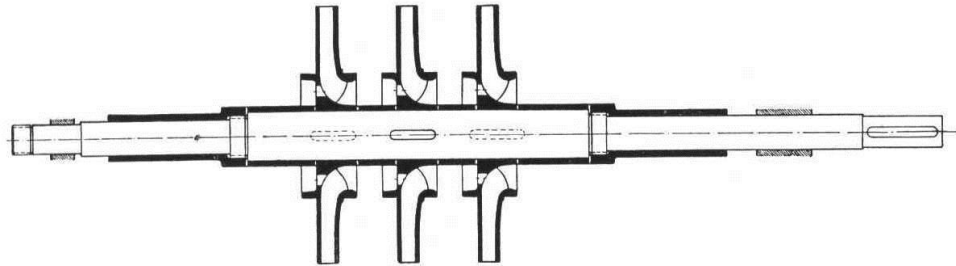

Fig. 5 - Rotor
The shaft (210) is protected inside the pump against attack by the fluid pumped by means of spacer steeves (525.1/2) and stage steeves (521). The stage sleeves also serve to locate the impellers axially on the shaft. The shaft (210) is protected by the shaft protecting sleeves (524.1/2) in the region of the shaft seal. These protecting sleeves are screwed onto shaft (210) by means of screw threads with opposed hand to the direction of rotation of the shaft. In order to balance the axial thrust, throttling passages are arranged at the impeller necks at the suction and discharge end of each impeller, and additional balance holes are provided in the impeller cheeks at the discharge end (see Fig. 5).